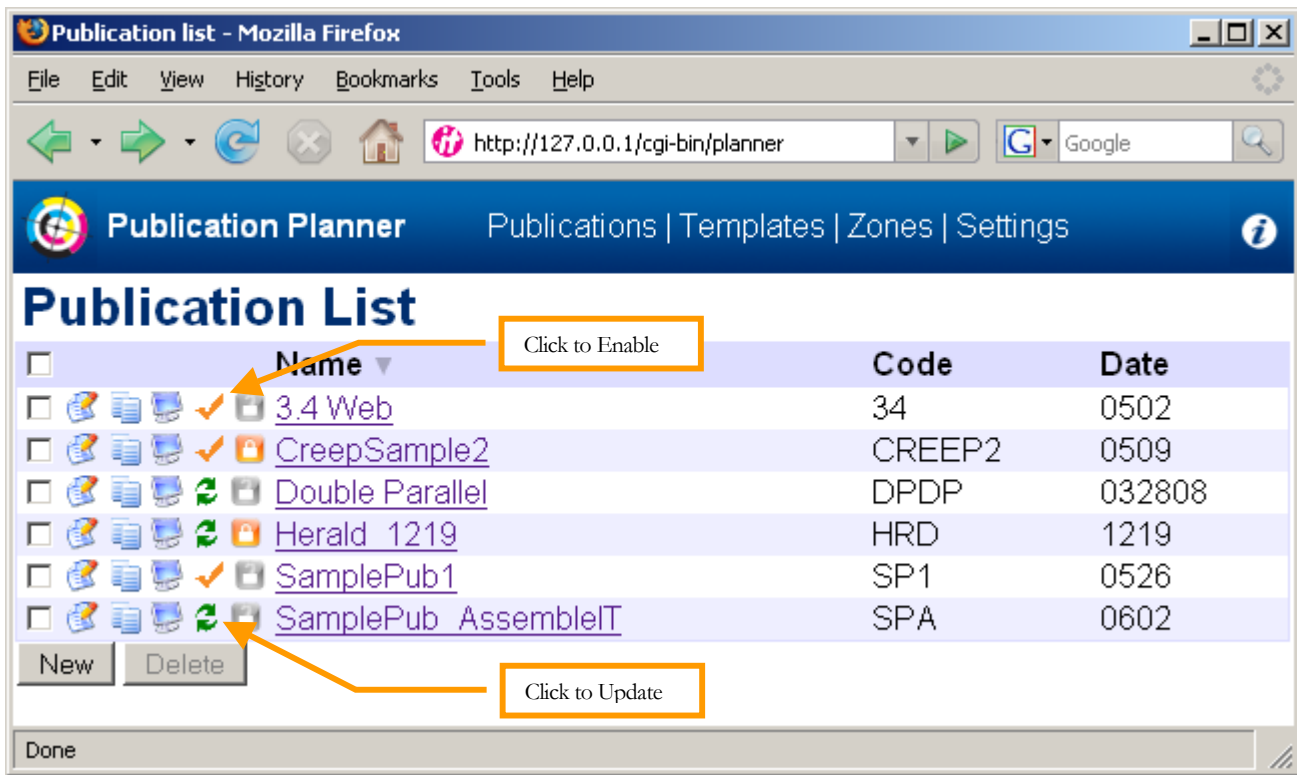

Figure 44 Enable/Update icons
- click the **Publications** link to view the list of publications, then click the **Update** icon  for the publication you wish to update (this icon also toggles between **Enable**  and **Update**  - see Figure 44 on p. 48).